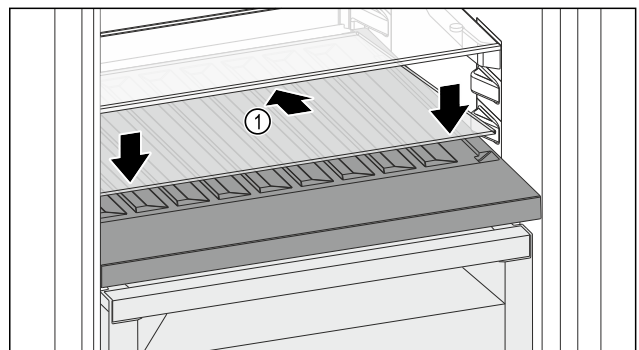

Fig. 108
- ▶ Place the glass shelf Fig. 108 (1) at an angle, tilted back and down.
- ▶ Lower the glass shelf Fig. 108 (1) at the front.